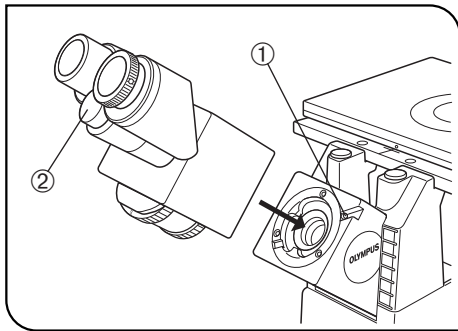
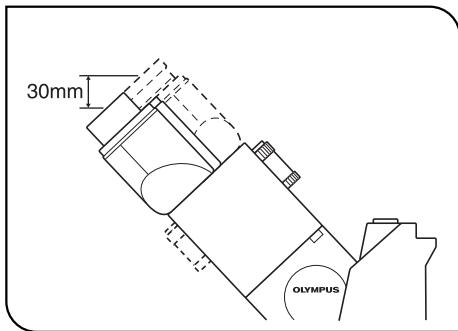

Fig. 96
Fig. 97
7 Attaching the Observation Tube (Figs. 96 to 99)
U-BI90CT, U-BI90 or U-TBI90 Binocular Tube (U-MO Monocular Tube) (Figs. 96 & 97)
1. Using the Allen screwdriver, loosen the observation tube clamping screw ① on the observation tube mount. (Fig. 96)
2. Attach the circular dovetail mount of the observation tube into the observation tube mount, placing the observation tube so that the interpupillary distance scale numbers ② are seen right side up. Then tighten the clamping screw to clamp the observation tube.
- Ⓞ Normally, the distance from the surface of the desk to the eye point is approximately 430 mm. If it is desirable to lower the eye point position, the observation tube (provided it is other than the U-TBI90) may be detached, turned 180° and then attached on the observation tube mount again. This lowers the eye point height by approximately 30 mm. (Fig. 97)